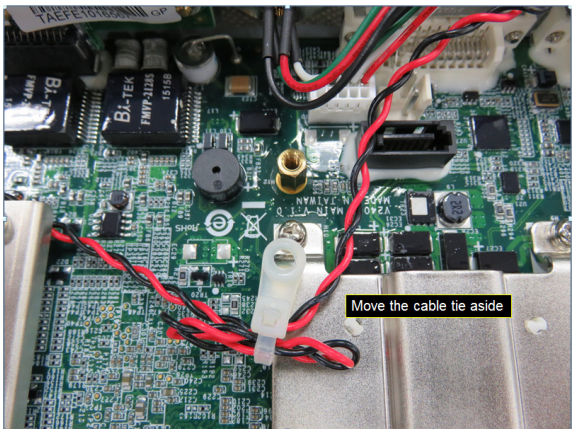

Figure 23
- 4.3.2 Move the cable tie that is holding the wire aside as shown in Figure 23.